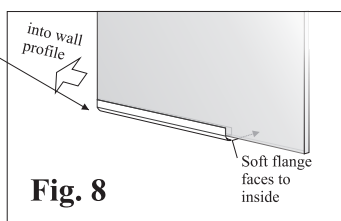

Fig. 8
- 6 FITTING GLASS PANELS.** The fixed panels can now be fitted. Each panel is pre-fitted with a bottom gasket as shown in Fig. 8 below. Ensure when fitting these panels that the soft seal is facing inwards into the shower.